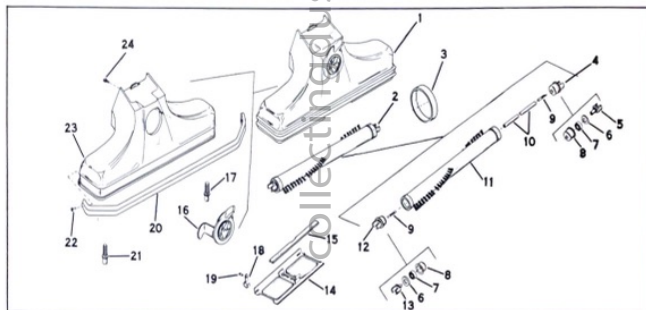

Figure 2-1. Nozzle Group (Model 505/512)
(1) Make sure that the large brush adjusting screw (17, fig. 2-1) is correctly installed in the end of the nozzle toward the foot switch of the motor housing.